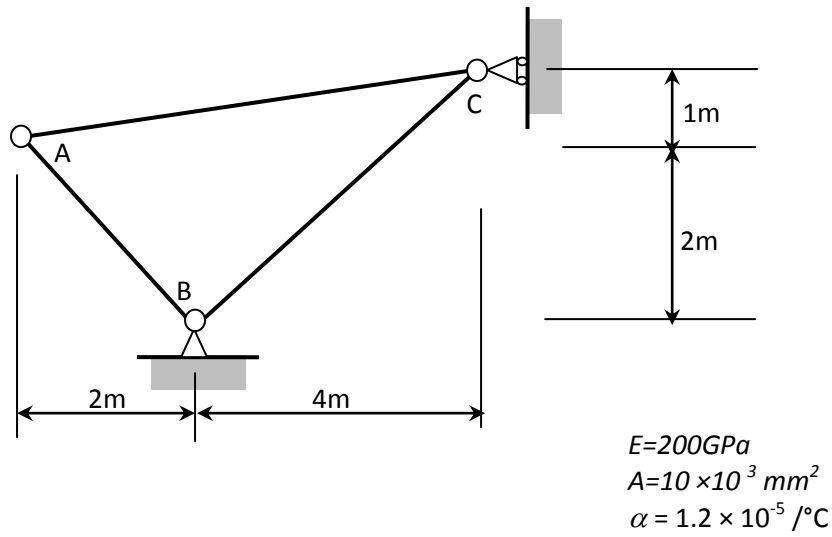

Figure 9
6. (a) For the truss shown in Figure 9, calculate the vertical displacement of roller support C if member AB and BC suffer a temperature increase of 20°C , member AC is shorter by 25mm. Data of member length is given as follows: AB=2.828m, BC=5m, AC=6.083m.